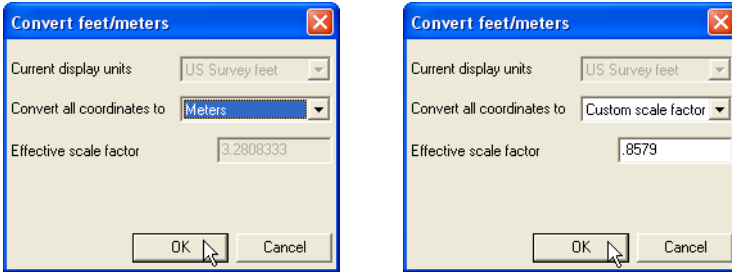

Figure 3-15. Select Conversion Type
2. On the **Convert feet/meters** dialog box, check mark the desired new units from the drop-down list and click **OK**. For *Custom scale factor*, enter the scale factor and click **OK** (Figure 3-15).